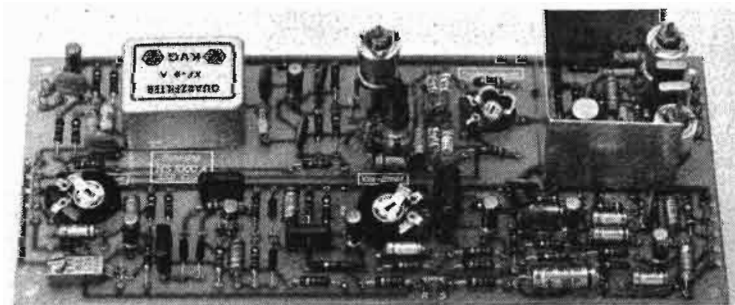

FIG. 2
I. — EXCITER BLU HS 1000-A (Fig. 2)